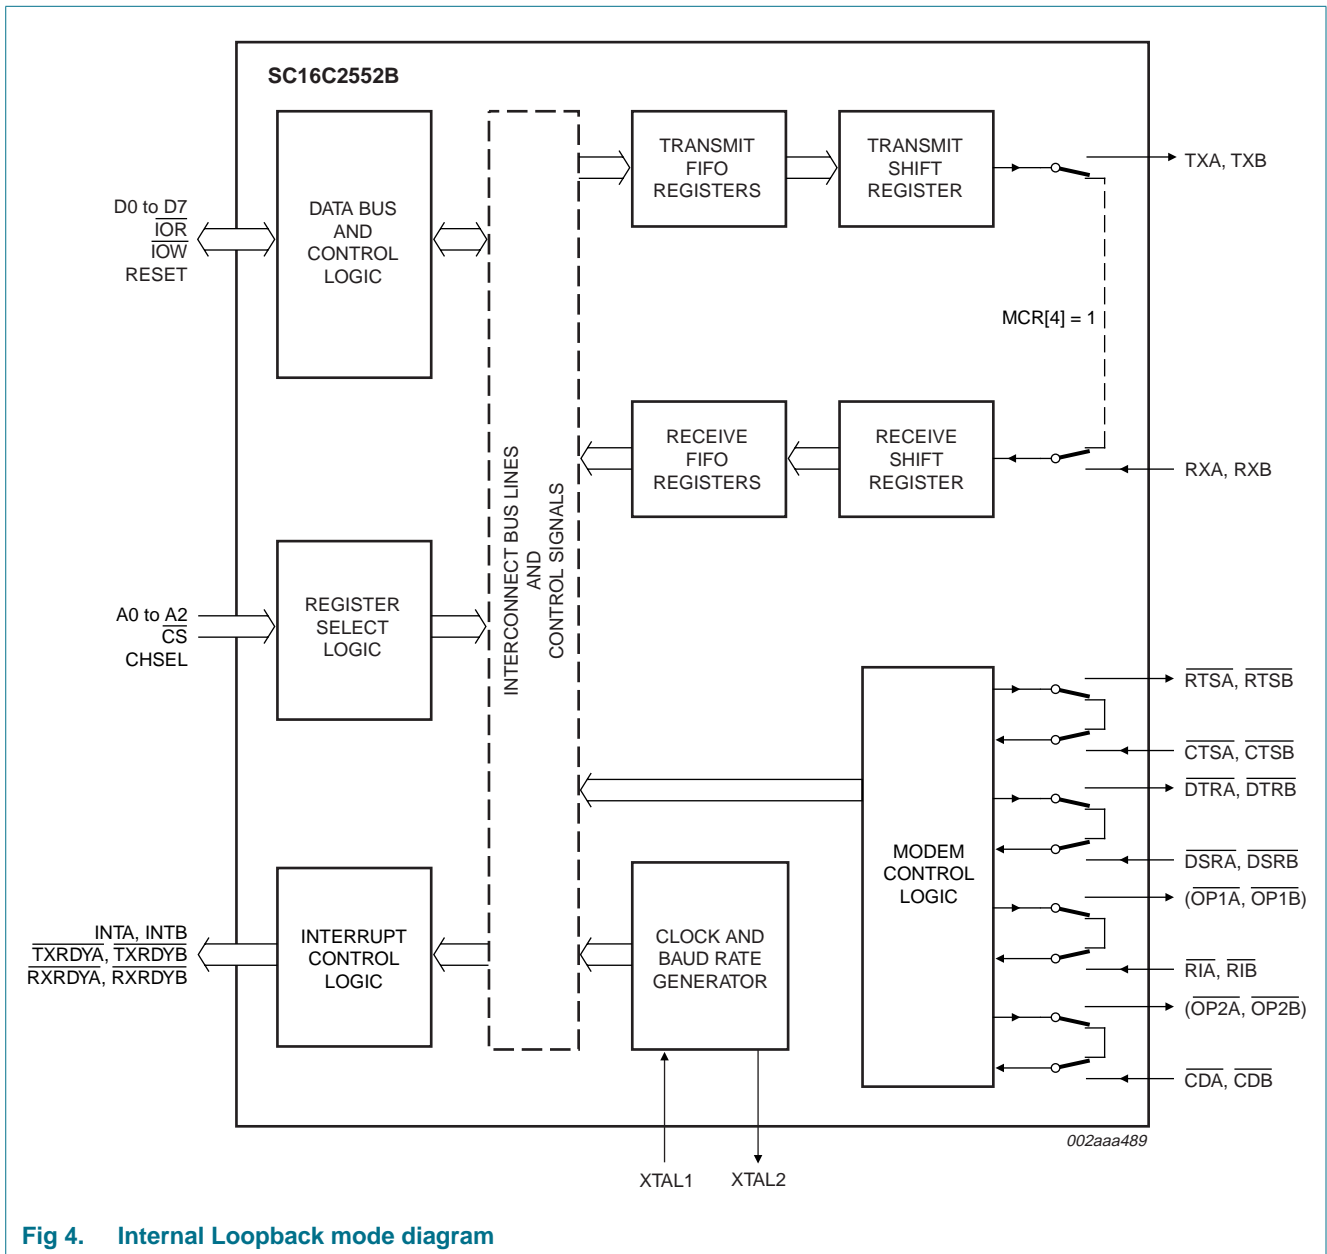

Fig 4. Internal Loopback mode diagram
The internal loopback capability allows on-board diagnostics. In the Loopback mode, the normal modem interface pins are disconnected and reconfigured for loopback internally. MCR[3:0] register bits are used for controlling loopback diagnostic testing. In the Loopback mode, INT enable and MCR[2] in the MCR register (bits 3:2) control the modem \overline{RI} and \overline{CD} inputs, respectively. MCR signals \overline{DTR} (bit 0) and \overline{RTS} (bit 1) are used to control the modem \overline{DSR} and \overline{CTS} inputs, respectively. The transmitter output (TX) and the receiver input (RX) are disconnected from their associated interface pins, and instead are connected together internally (see Figure 4). The \overline{CTS} , \overline{DSR} , \overline{CD} , and \overline{RI} are disconnected from their normal modem control inputs pins, and instead are connected internally to \overline{RTS} , \overline{DTR} , OP2 and OP1. Loopback test data is entered into the transmit holding register via the user data bus interface, D0 to D7. The transmit UART serializes the data and passes the serial data to the receive UART via the internal loopback connection. The receive UART converts the serial data back into parallel data that is then